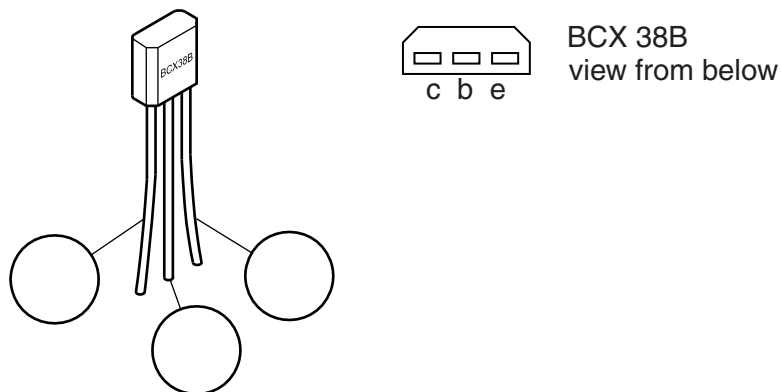

Fig. 9 [2]
- (iii) Fig. 9 shows a Darlington pair built into a single transistor.